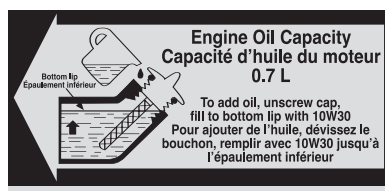

Figure 1
Assemble the hose support (C) Fig.1 to the right side of the frame using 2 pan head screws, 4 washers and 2 nylon hex. nuts. Then assemble the wand support (D) to the left side of the frame again using 2 pan head screws, 4 washers and 2 nylon hex. nuts.